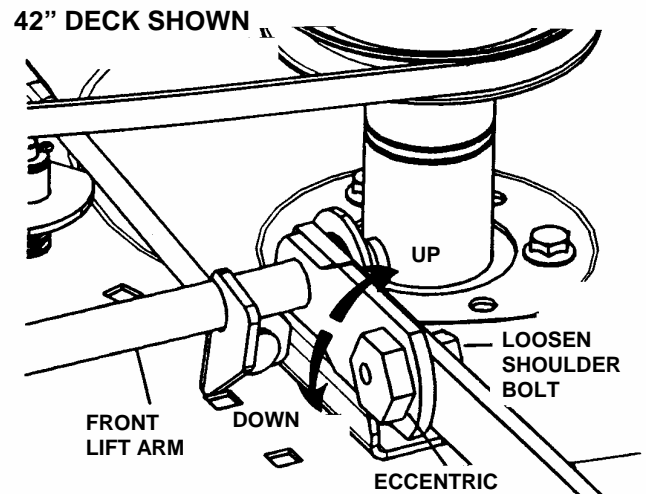

FIGURE 4.7
- g. Turn eccentric "UP" or "DOWN" as required until blade tips are within  $1/8"$  of the same distance from the floor. See Figure 4.7.